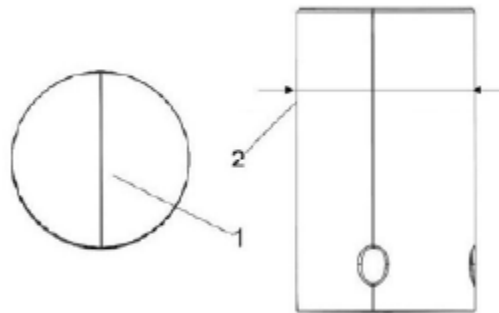

Figure 101.
1. Inspect the tappet contact surfaces for abnormal wear (Figure 101, Item 1).
2. Measure the outside diameter of the tappet stem (Figure 101, Item 2). See the *Mechanical Specifications Chart* for the service limit.